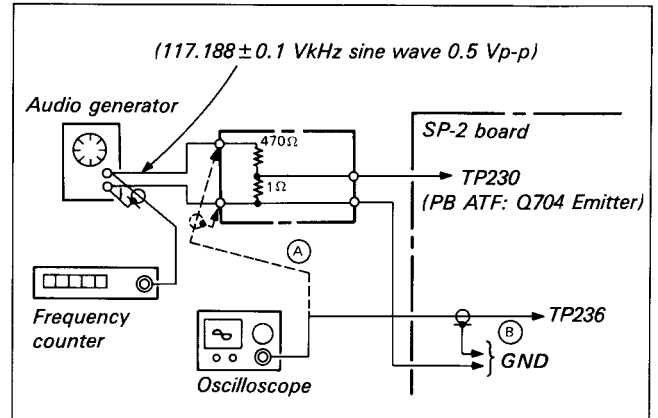

Fig. 8-7.
Signal	See Fig. 8-7
- 1) Check the output level of the audio generator with an oscilloscope and adjust so that the sine wave output level becomes  $0.5 \text{ Vp-p}$ . (Fig. 8-7 (A))